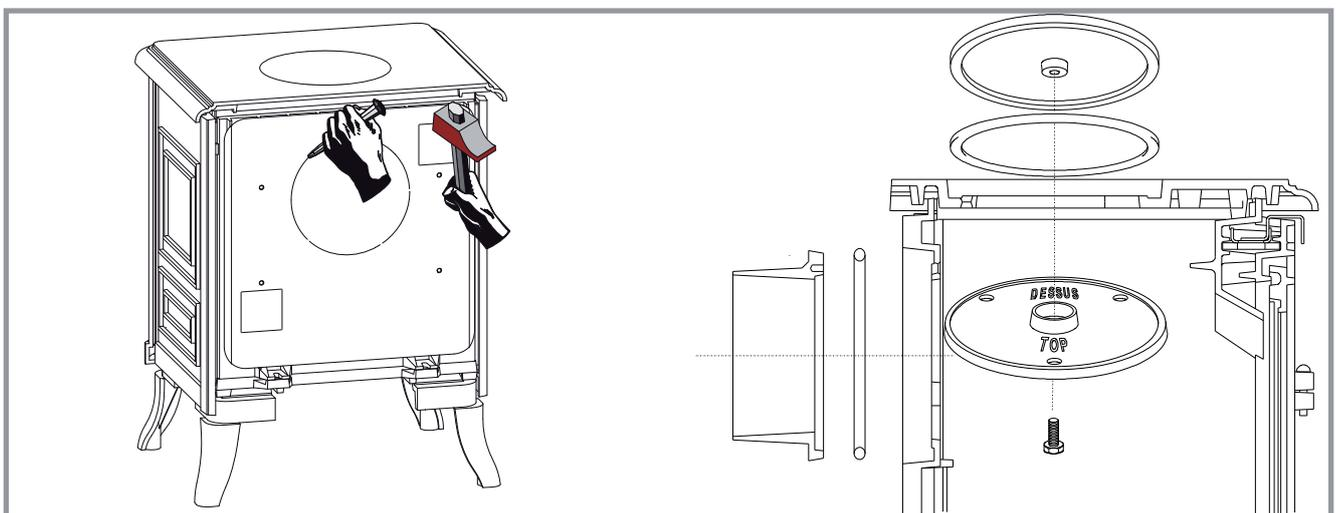

Figure 5 - Smoke exit at rear
2.4.2. Smoke exit at rear (figure 5)